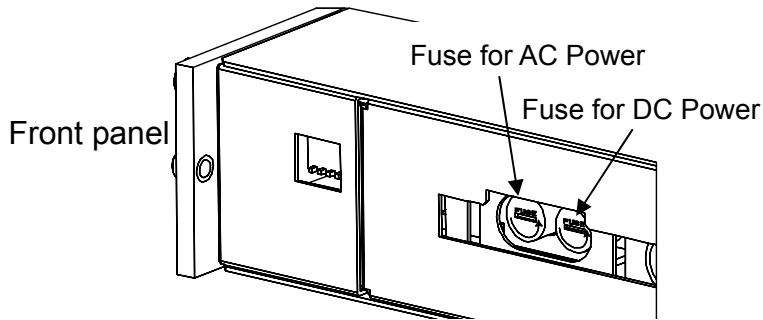

Fig.7-2
2. As shown in Fig.7-2, place the amplifier unit so that the front of the unit to be left side, bottom of the unit to be in the front, and the rear of the unit to be right side.
7. Confirm that the fuse holder is fully installed in the amplifier unit as Fig.7-2. Also, confirm that the fuse holder slit (flat-blade screw driver contact portion) is parallel to the amplifier unit.